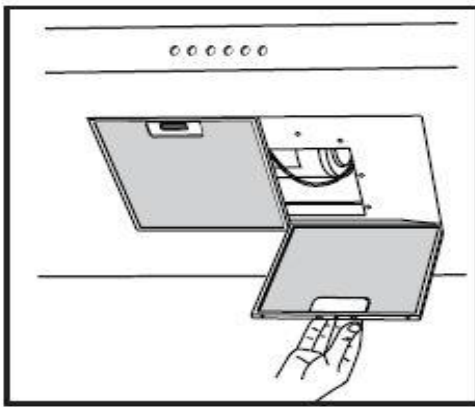

Fig. 12
Before proceeding with the assembly operations, remove the anti-grease filter(s) (Fig.12) so that the unit is easier to handle. In the case of assembly of the appliance in the suction version prepare the hole for evacuation of the air.
- If the cooker hood is supplied with a lower chimney piece that must be fixed to the hood body with screws, remove the anti-grease filters from the hood by acting on the relevant handles (Fig.12). Then screw the lower chimney piece pipe to the inside of the hood, using screws **P**(Fig.13).